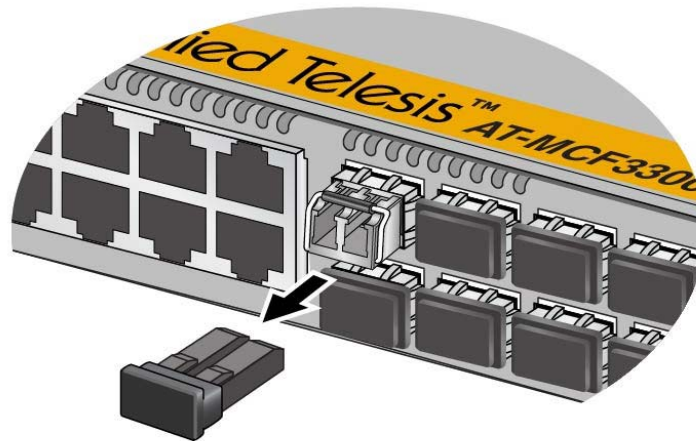

Figure 47. Removing the Dust Cover from a Transceiver
7. Remove the dust cover from the transceiver. Refer to Figure 47 on page 87.